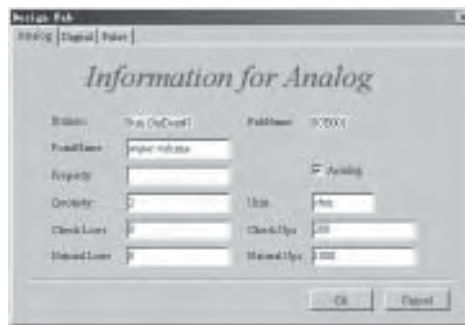

Fig. 4-14 Defining the Tele-metering Port
Step 5. Set Port I4, Port I5 and Port I6 as 'Water volume', 'Gas volume', 'Electricity volume' respectively as in Fig. 4-14.